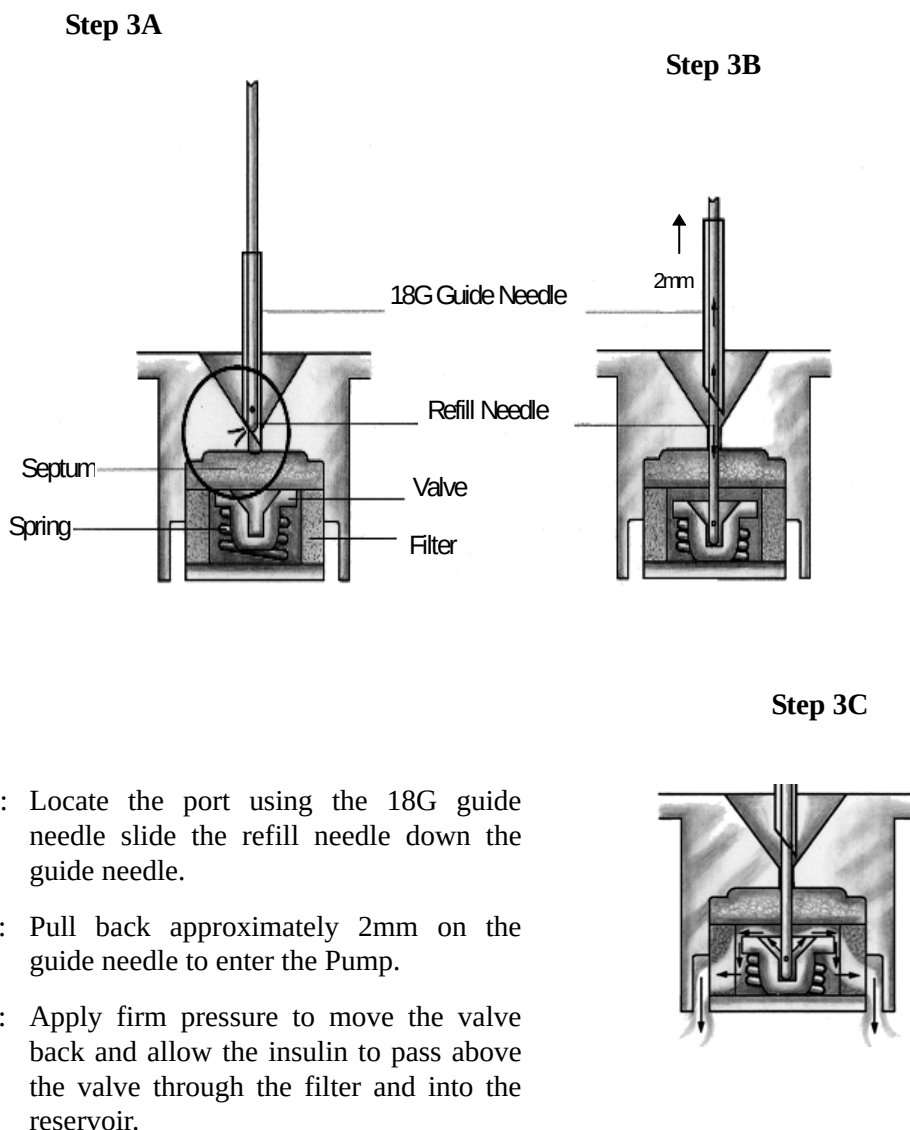

Figure 13: Operation of the Pump inlet valve
3. Press the primed refill needle (attached to the RB syringe) into the Pump fill port, by sliding it through the 18 gauge guide needle. Pull back slightly (approximately 2 mm) on the guide needle to allow the refill needle to enter the Pump fill port and actuate the inlet valve.(See Figure 13)
2. Enter the Pump by passing the refill needle with the attached IN refill syringe through the 18 gauge guide needle. Pull back slightly (approximately 2 mm) on the 18 gauge needle to allow the refill needle to enter the Pump and actuate the inlet valve (see Figure 13).